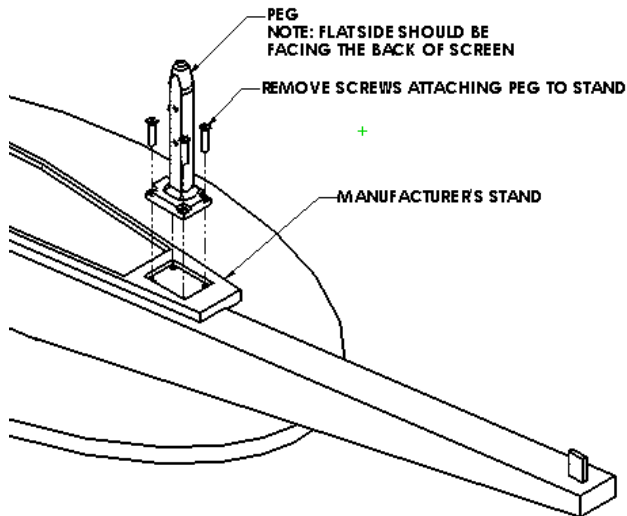
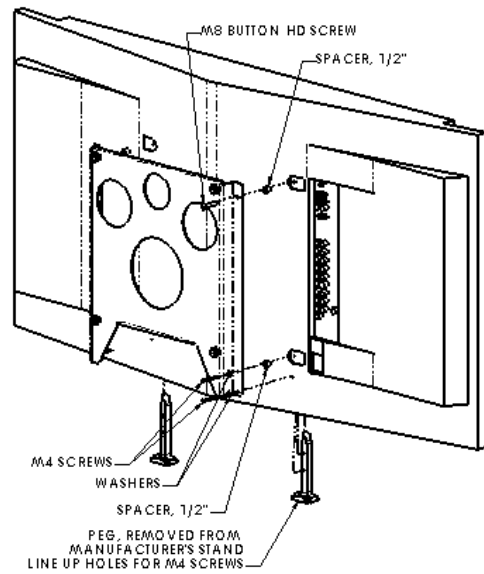

Figure 4
Figure 5
- Remove the pegs from manufacturer's stand as shown and align the holes to install the M4 screws. See Figure 4 and Figure 5.